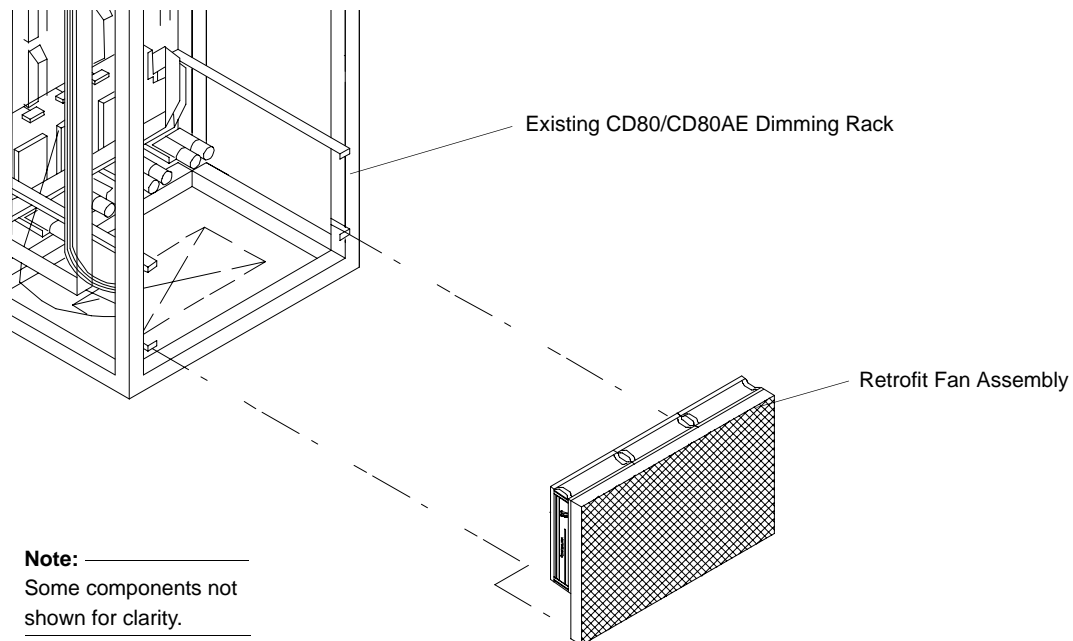

Figure 2: Retrofit Fan Assembly Installation
- Step 3. If there is sufficient clearance, connect fan power connector and mount the fan assembly as shown in **Figure 2**.